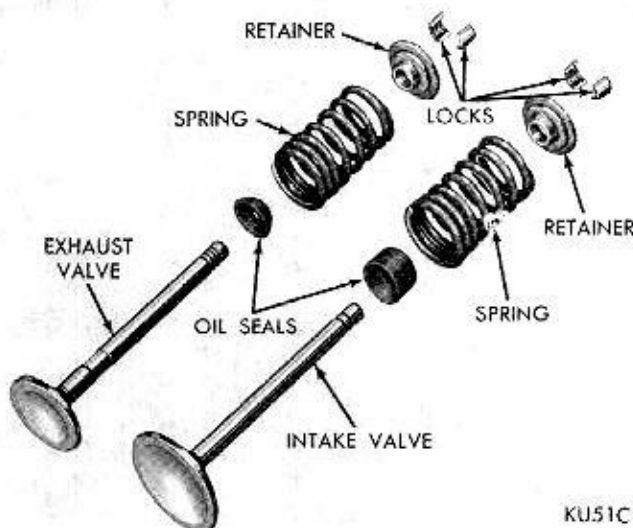

Fig. 16—Valve Assembly
(3) Install new cup seals on all valve stems (long seal on intake valve and short seal on exhaust valve) and over valve guides (Figs. 16 and 17).—Install valve springs and retainers.
(4) Compress valve springs with Tool C-3422A, install locks and release the tool. If valves and/or seats are reground, measure the installed height of springs. Make sure measurement is taken from the bottom of the spring seat in the cylinder head to the bottom surface of the spring retainer. (If spacers are installed, measure from the top of spacer). If height is greater than 1-11/16 inches, install a 1/16 inch spacer in the head counterbore to bring the spring height back to normal 1-5/8 inches to 1-11/16 inches.